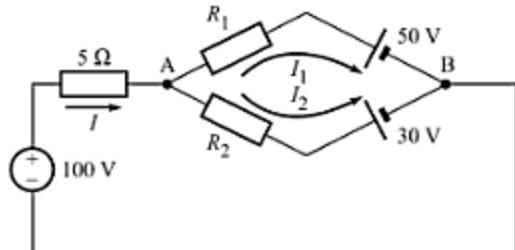

Fig. A-99
- A-63. In the circuit of Fig. A-99, (a) find R_1 and R_2 such that $I_1 = 1 \text{ A}$ and $I_2 = 5 \text{ A}$, and (b) find R_2 such that $I_1 = 0$.